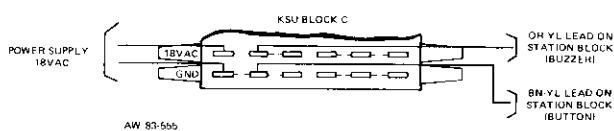

Figure 12: Connecting Details, Button and Buzzer Signaling
- (d) For low voltage signaling, arrange the equipment as follows refer to Figure 12: